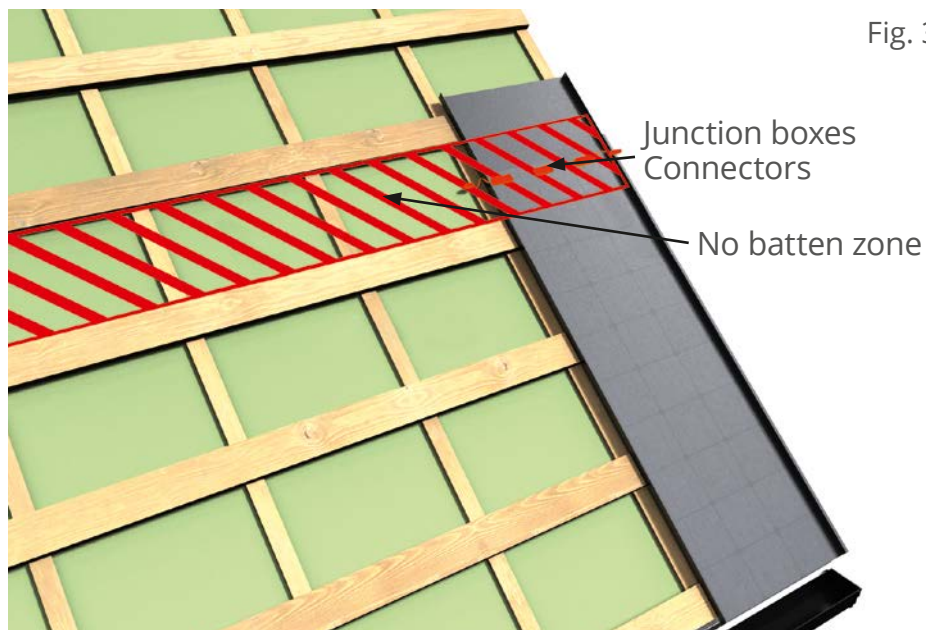

Fig. 3
1.4 The **junction boxes** under each panel **must fit between two battens, without touching either (Fig. 3)**. The junction boxes are located behind the Roofit.solar panels, starting from the edge of the 'active PV area' and ending 50 mm below the 'active PV area' edge.